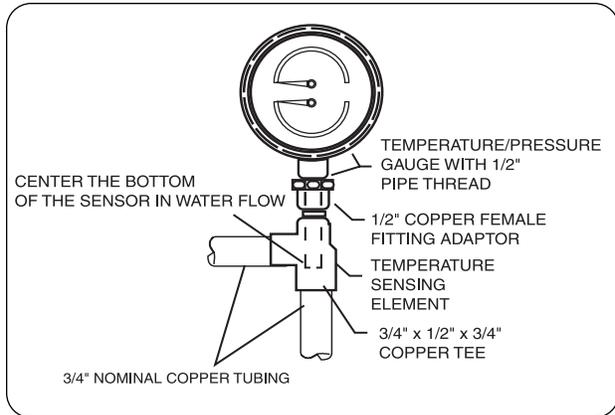

Figure 2. Installation Temperature/Pressure Gauge
Install the temperature sensing bulb in the water system. See **Figures 2 and 3** for methods of installation.
*NOTE: The temperature sensing element must be in water stream. (See Figures 2 and 3.)*